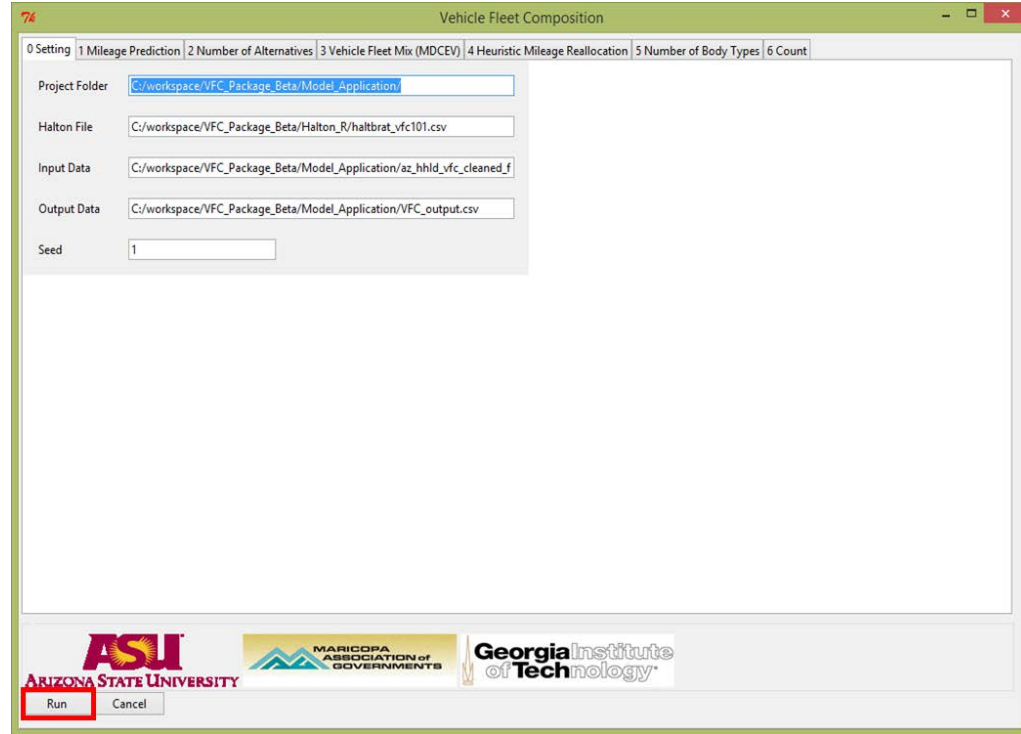

Figure 2. Vehicle Fleet Composition GUI
- c) A GUI shown in Figure 2 will pop-up
Click the **Run** button located at the bottom-left corner of the GUI (see Figure 2). This step will run the VFC model system from start to finish in a sequential fashion. Comparison charts showing results from various components of the model system will get populated in the 'plots' pane of RStudio dashboard. Messages pertaining to the model run will be shown in the RStudio console.